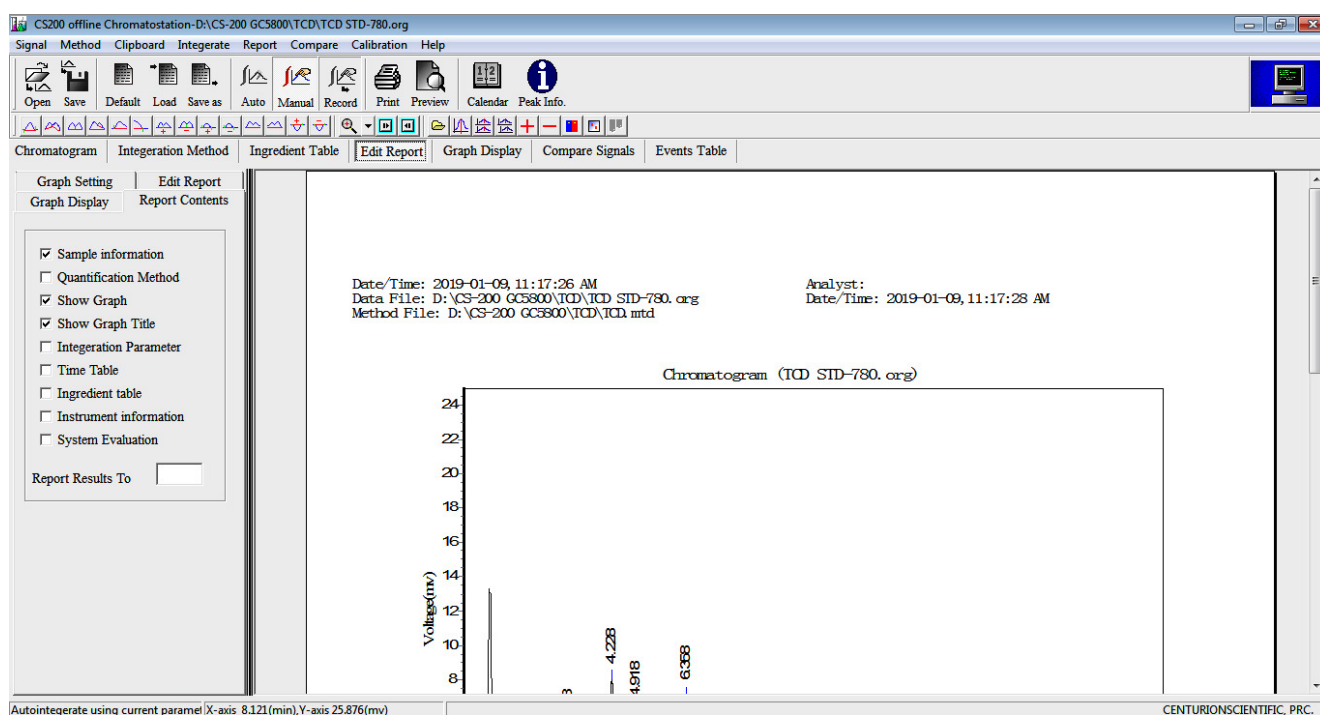

Figure D-400. The Dialog Box for Editing Report
4. The selected Chromatogram will be loaded and displayed as shown in Figure D-400.